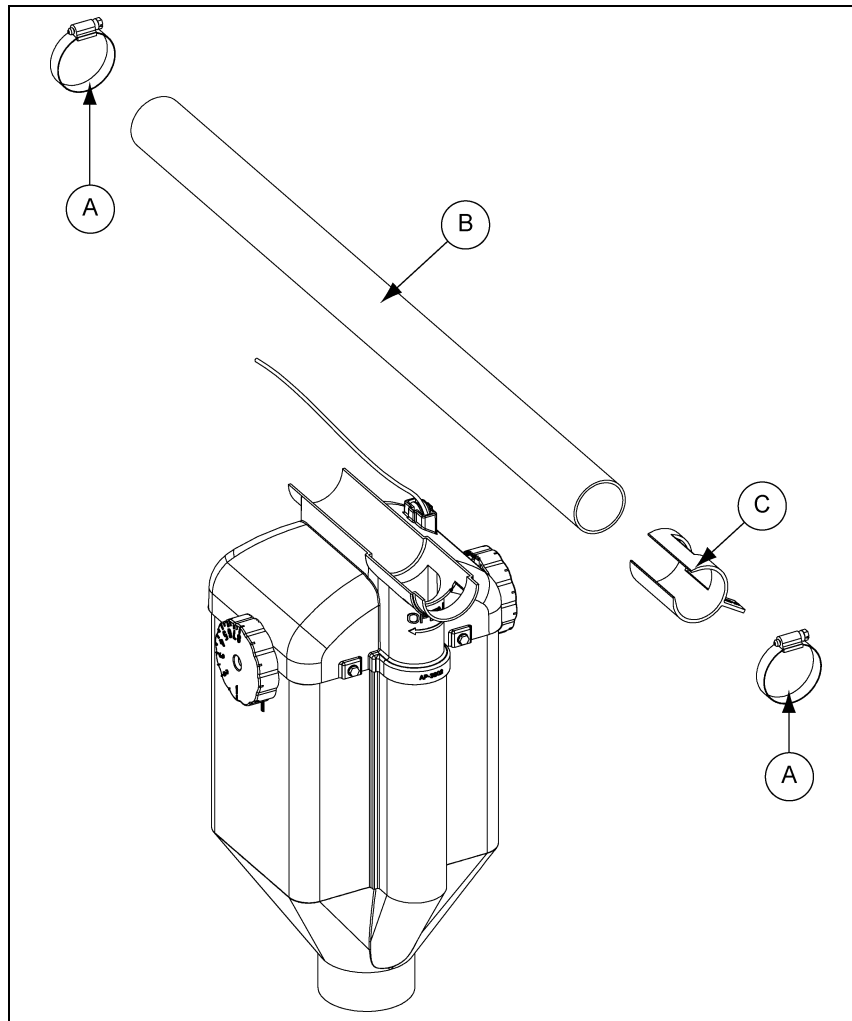
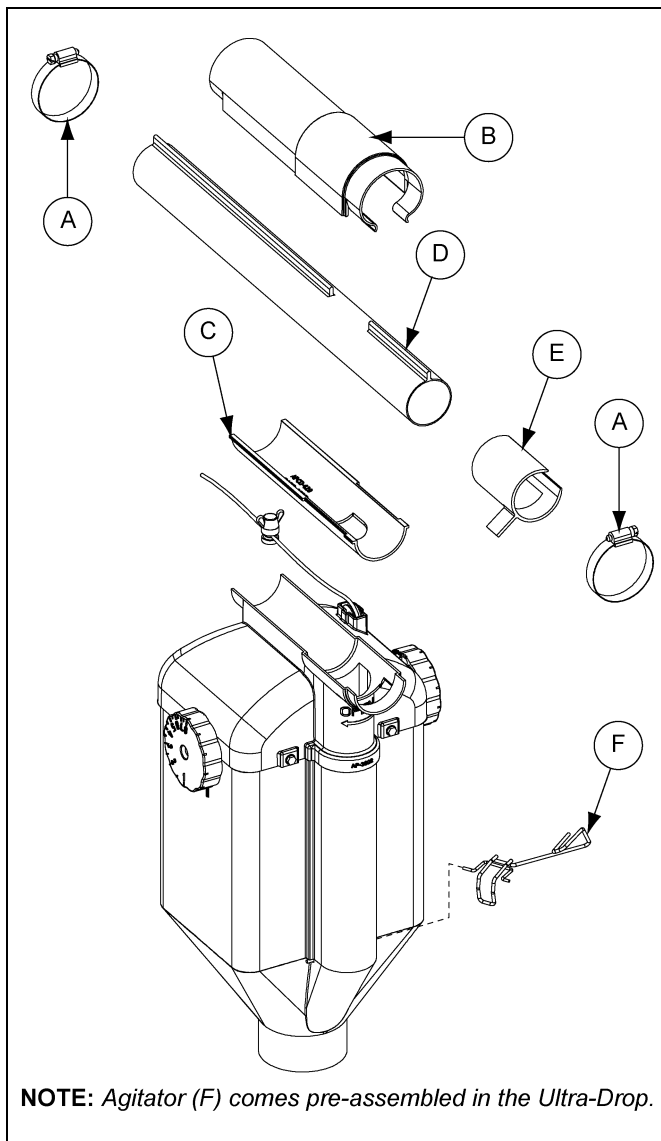

Figure 3F Ultra-Drop Installation (Gestation)
Figure 3I
1. If the hose clamps have not already been placed onto the tubing, (see laying out the tubing section on Page 12) take apart each hose clamp (A). Place it over the tubing and put it back together loosely.
2. Snap the shut off slide (C) over the top of the tubing and make sure it is not too tight and can be rotated back and forth.
3. Hold the Ultra-Drop up next to the tubing making sure the hole in the tubing is in the center of the Ultra-Drop inlet hole. (See Figure 3F.) Slide the hose clamps into the groove on each side of the top of the Ultra-Drop and tighten.
2. Place ribbed tube spacer (C) over ribbed tube (D) if used. If PVC tube is used, disregard ribbed tube spacer.
3. Snap the shut off slide (E) over the top of the tubing and make sure it is not too tight and can be rotated back and forth.
4. Place water shield (B) over tube.
5. Hold the Ultra-Drop up next to the tubing, making sure the hole in the tubing is in the center of the Ultra-Drop. (See Figure 3F on Page 16.) Snap rain guard over the tubing as shown in Figure 3I. Slide the hose clamps into the groove on each side of the top of the Ultra-Drop and tighten.